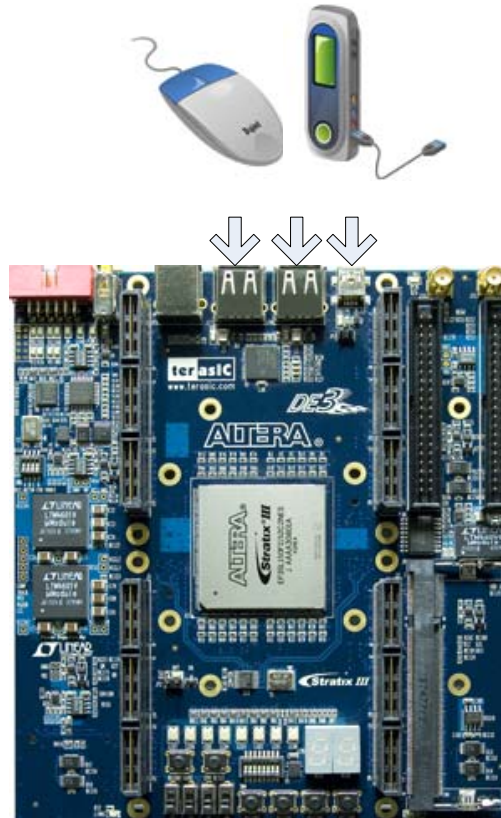

Figure 5.6. Plug USB-Devices into DE3
- Plug USB mass-storage device or HID USB-Mouse into the USB ports in DE3, as shown in Figure 5.6.